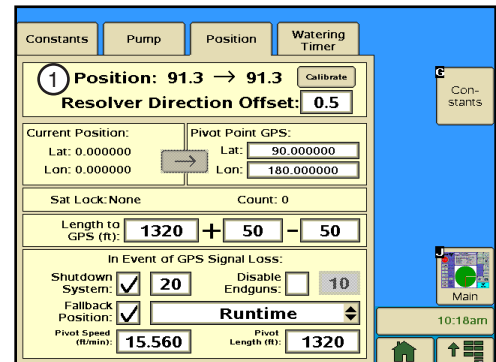

Figure 33-2 1. Position
3. Push **Setup**, **Constants**, **Position** to view the position of the machine. Refer to Figure 33-2.